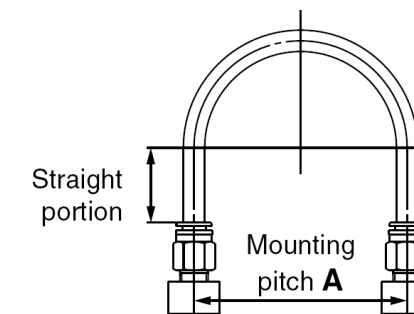

Figure 7
- When connecting tubes using one-touch fittings, provide some spare tube length as shown in Figure 7